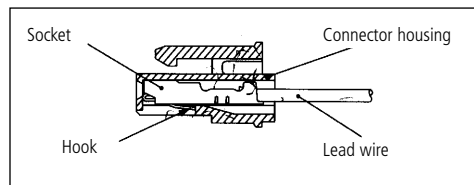
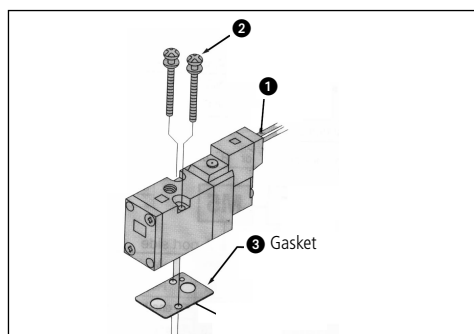

Fig 6
Fig 10
Disconnection of plug connector (Fig 6)
Removing a valve from the base (Fig 10)
- Disconnect the electrical connector ① (Fig 10). (Also refer to Fig 6).
- Remove the valve holding down screws ② and retain (Fig 10).
- Retain the gasket ③ (Fig 10).
- Refit the gasket ③ (Fig 10) ensuring correct orientation.
- Refit the valve holding down screws ② (Fig 10).
- Remove valve as shown above (Fig 10).